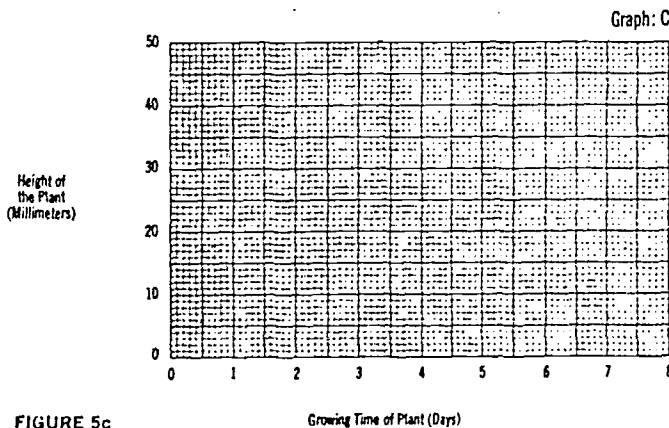

FIGURE 5c
- Graph C (as in Figure 5c), 30 copies (EXP)